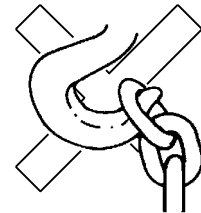

Fig. 7
- Never attach the load on the tip of the hook. This also applies to the top hook (Fig. 7).
The load must always be seated in the saddle of the hook. Never attach the load on the tip of the hook (Fig. 7). This also applies to the top hook.